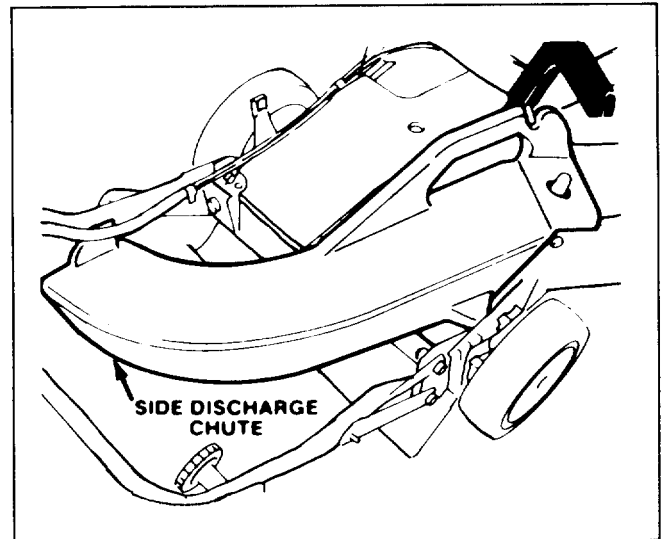

Figure 27
3. Side Discharge Kit, Model No. 59189 — Install discharge tunnel and rear mounted side discharge chute to convert the Recycler® mower to a side discharge mower (Fig. 27). Includes discharge tunnel plug.